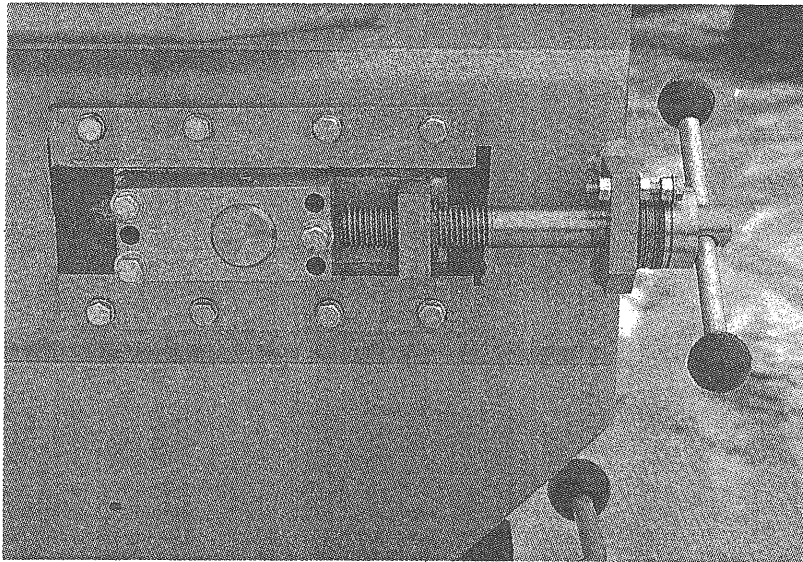

Fig 3-1 Blade Tensioning Device
2. Loosen blade tensioner which is located on the idler box side of the machine, Fig 3-1.
8. Tighten the blade tensioner until the groove and the washer line up as shown in Fig 3-1